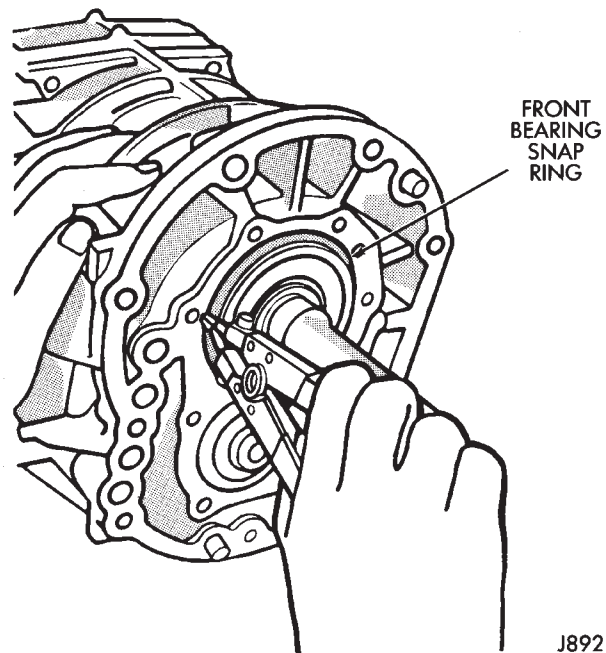

Fig. 86 Installing Front Bearing Snap Ring
(4) Install new front bearing snap ring (Fig. 86).